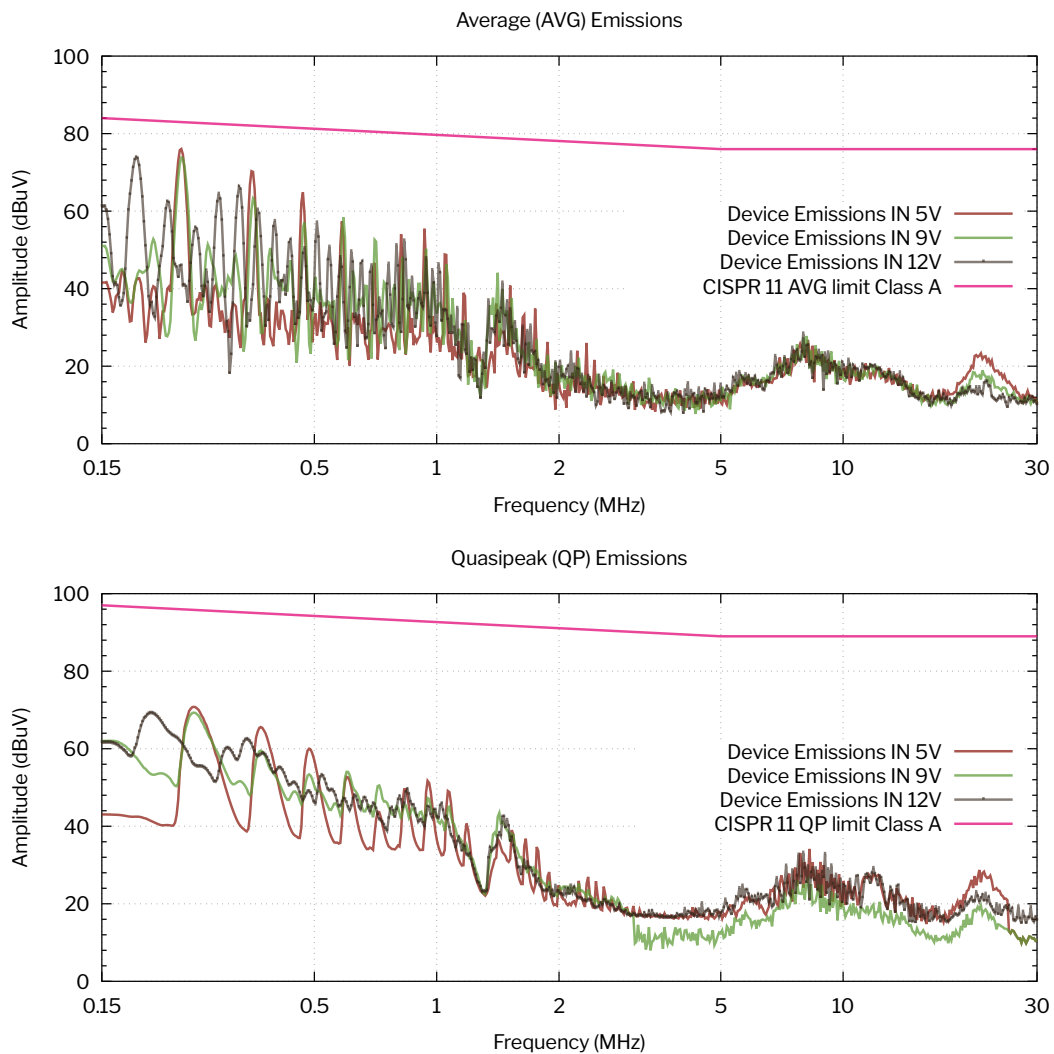
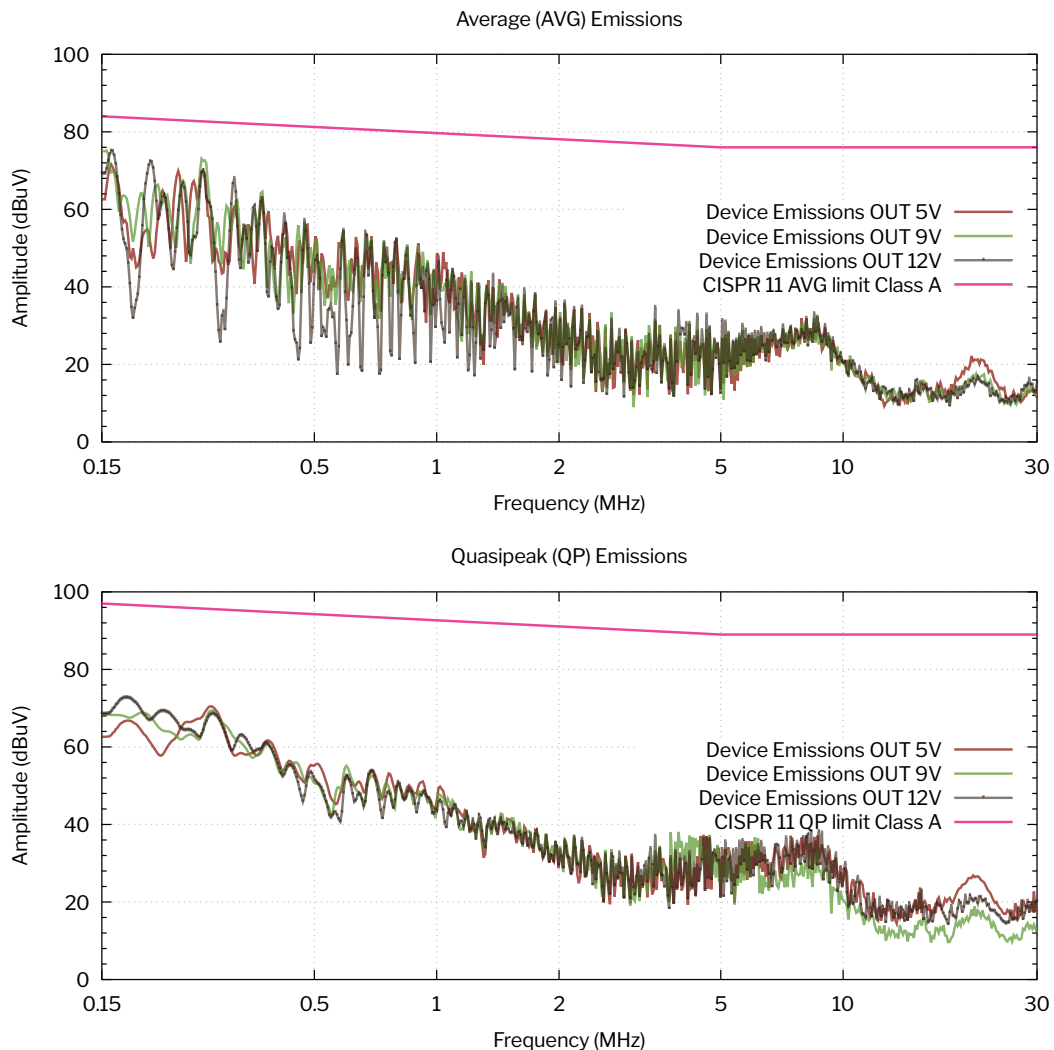

Figure 9: Conducted emissions of the USB-DC-PD at the input, AVG and QP.
Figure 10: Conducted emissions of the USB-DC-PD at the output, AVG and QP.
The average (AVG) and quasi-peak (QP) conducted emissions of the USB-DC-PD at the input are shown in Figure 9, those at the output in Figure 10, each for the three PD levels 5 V, 9 V and 12 V against the Class A limits of EN 55011 / CISPR 11.